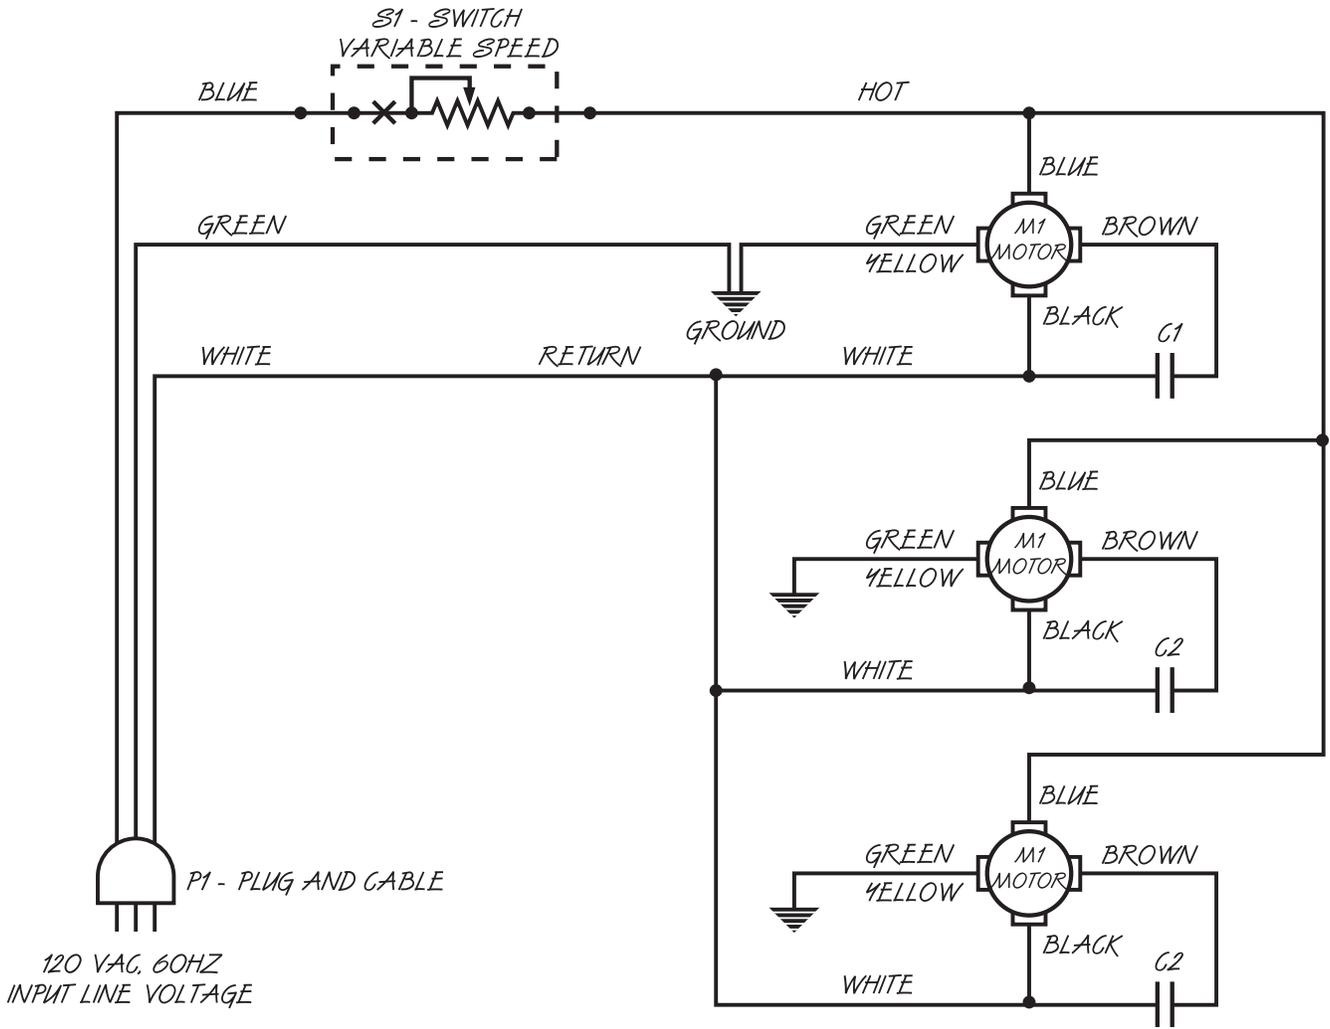

Figure 19.
- Separate the motor from the motor mount by removing the four screws found in figure 19.